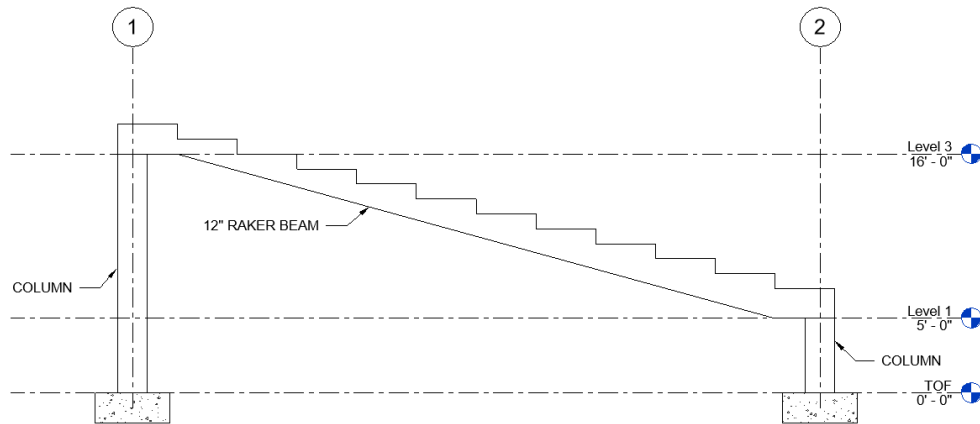

Figure 4: Typical Raker Beam elevation
There will be 12" thick raker beam with (12) steps bearing on each column along the letter grid lines and will support the horizontal landings for the seats, refer to figure 4.